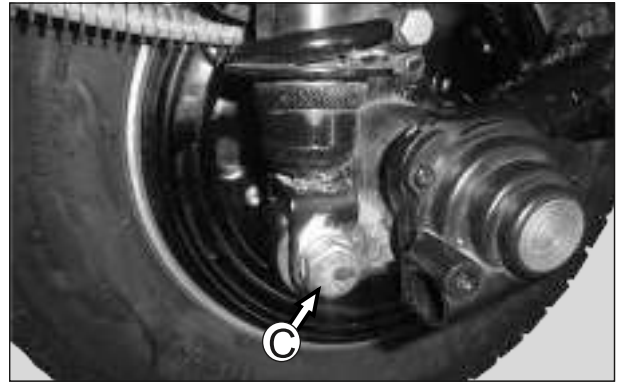

Fig. 5.79
- Now, take out the already loosened hexagonal bolt(M12 x 1.75 x 55) along with punched washer and wave spring washer from front shock absorber assembly bottom mounting (C).(Fig. 5.79 )